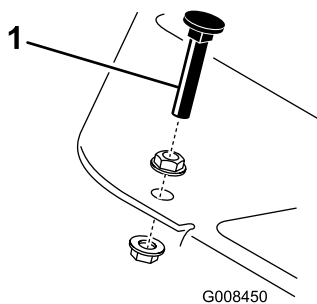

Figure 43
Press down on the traction pedal. If the pedal contacts the stop (Figure 43) before tension is felt on the cable, an adjustment is required:
1. Loosen flangehead locknuts securing the pedal stop to the floor plate (Figure 43).